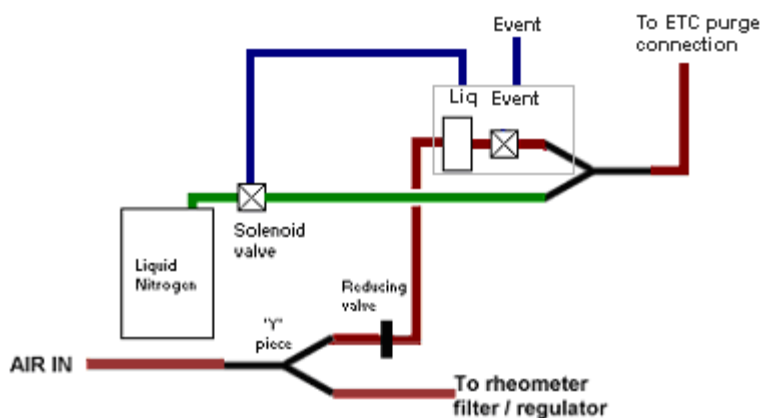
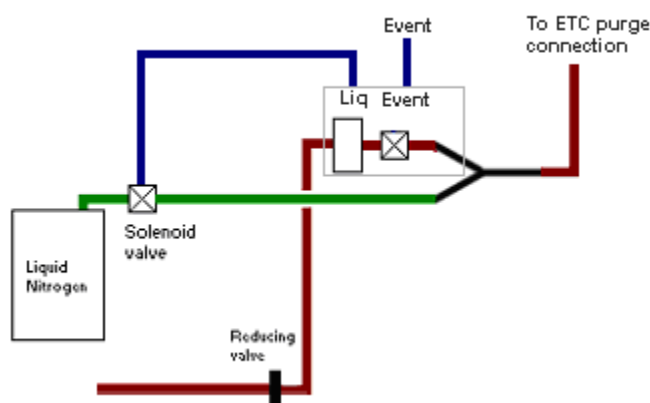

Figure 5.25
Figure 5.26
Follow the installation procedure in the previous section up to step 15. Then use the following additional steps to complete the installation (see Figure 5.25 and Figure 5.26).
4. Connect a gas feed to the '**Gas in**' connector on the flow control assembly. If you have a supply of nitrogen gas follow Figure 5.26, otherwise follow Figure 5.25.